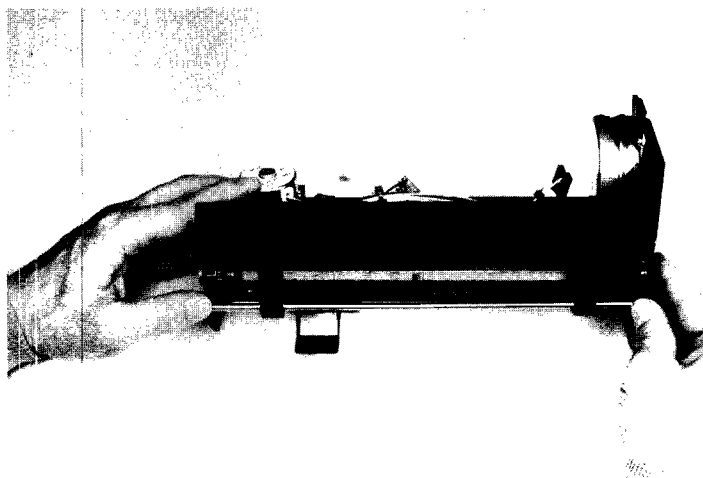

Figure 11-3. Bail Arm Adjustment, Left Side
2. Once the right side is adjusted properly, apply downward pressure on the right side of the bail arm assembly and lift the left side of the bail, as shown in Figure 11-3. The left pinch roller should have the same amount of play. If not, use the same techniques outlined above to make the proper adjustment.